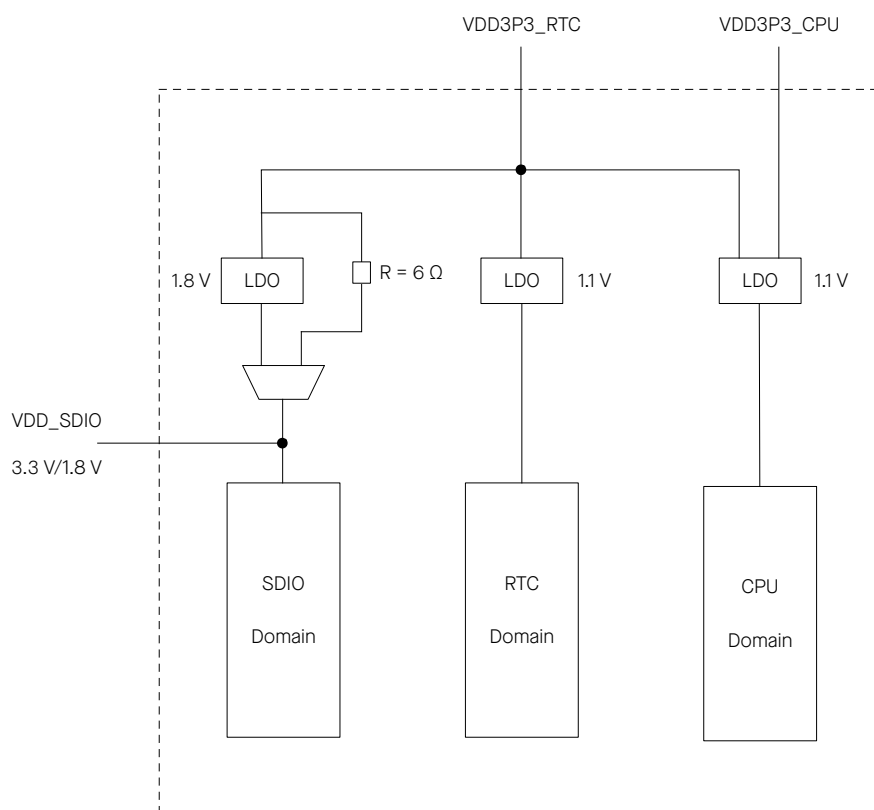

Figure 2-3. ESP32 Power Scheme
The power scheme is shown in Figure 2-3 ESP32 Power Scheme.
1. As the in-package flash (ESP32-U4WDH) and the in-package PSRAM (ESP32-D0WDRH2-V3) operate at 3.3 V, VDD\_SDIO must be powered by VDD3P3\_RTC via a 6  $\Omega$  resistor. See Figure 2-3 ESP32 Power Scheme.